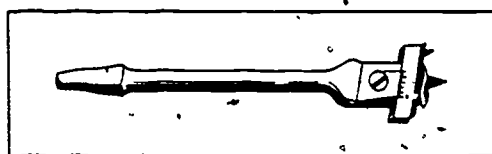

Figure 3-12. Expansion bit.
**Expansion bit.** An expansion bit, shown in figure 3-12, is also used with the brace. It is an adjustable boring tool with a movable blade that can be adjusted to cut holes from 7/8 to 3 inches in diameter. The expansion bit is sharpened in the same way as the regular auger bits.